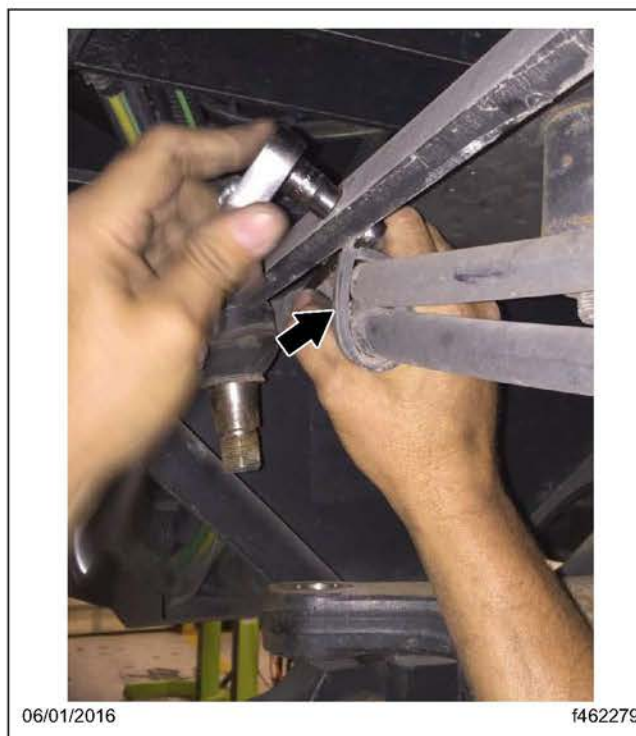

Fig. 4, Removing the P-Clip
2. Remove the P-clip that secures the hydraulic hoses to the frame. See Fig. 4.